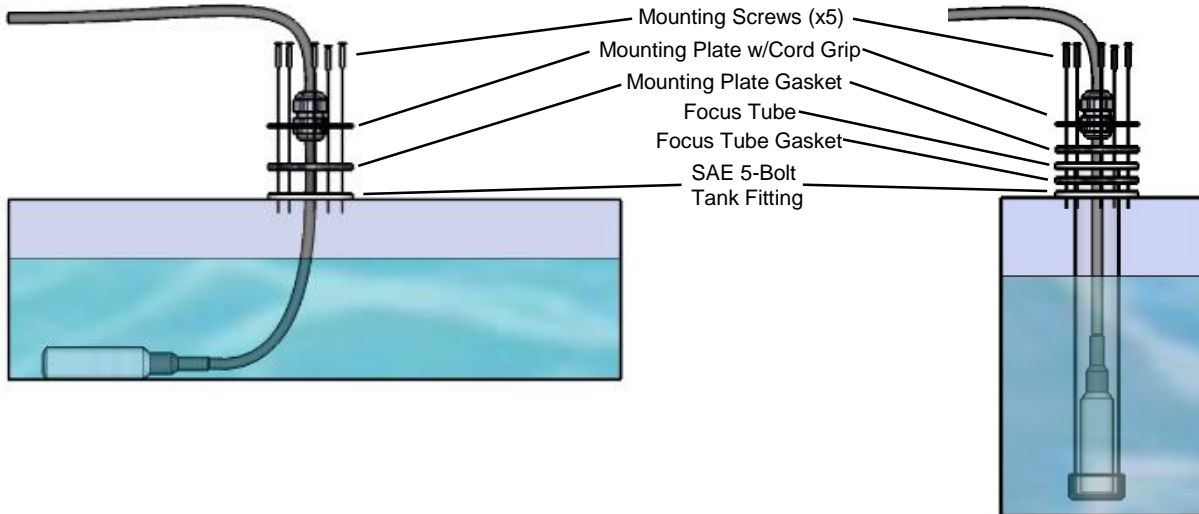

Figure 1 – Submersible Pressure Transducer Mounting
Maretron's submersible pressure transducers are used for indicating tank levels and can be installed directly in the tank. Please follow these instructions to mount and connect a submersible pressure transducer to an NMEA 2000® network via a Maretron FPM100 Fluid Pressure Monitor. Maretron recommends one of two methods for mounting a submersible pressure transducer in a tank; 1) without a restraining tube (shown on left side of Figure 1) and, 2) with a restraining tube (shown on right side of figure 1).
2. Lower the pressure transducer into the tank such that the transducer lies at the lowest point of the tank, and tighten the cord grip to secure the cable. On a tank with a flat bottom, the transducer may slide from side to side with the motion of the vessel, but will not rotate due to the stiffness of the cable. It is also possible to mount the pressure transducer inside a restraining tube or focus tube (sold separately, Maretron part number TFT-5H). Please refer to Figure 1 for examples.
3. Connect the two wires of the pressure transducer to a free pressure monitoring channel as shown in Figure 2 below. The diagram shows a connection to FPM100 channel #0, but connections to other channels are similar. Connect the red wire from the pressure transducer to the positive (+) terminal of the channel, and connect the white wire from the pressure transducer to the negative (-) terminal of the channel. The example in Figure 1 shows the pressure transducer connected to switch channel 0 with the red wire connected to “P0+”, and the black wire connected to “P0-”. Submersible pressure transducers have a small red plastic vent tube in the connecting cable. **Care must be taken not to kink or block this tube or allow it to be exposed to moisture, or pressure readings will be inaccurate.**